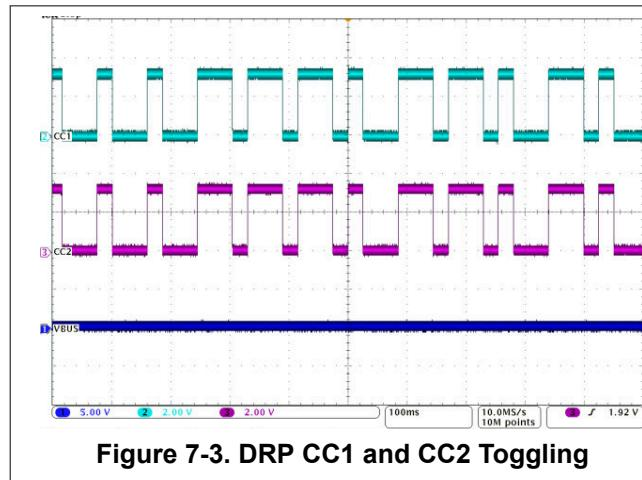

Figure 7-3. DRP CC1 and CC2 Toggling
- Verify the CC lines are toggling for *Dual-Role Port* functionality (see Figure 7-3)